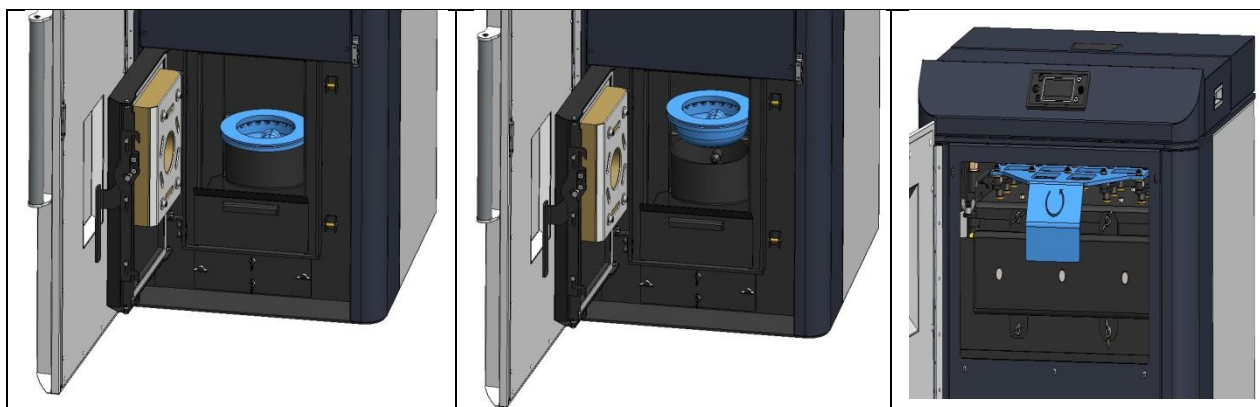

Figure 23
- In every 3 to 4 days it is necessary to clean the space of combustion chamber (**figure 23**). Also it is necessary to clean the deposits on the walls of the firebox. By this we provide a better transfer as one millimeter layer of tar and soot decreases the conductivity by 5%.